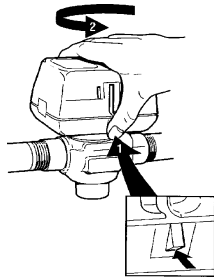

Figure 3 - Latch Mechanism to detach Actuator
1. The actuator head is automatically latched to the valve. Align the coupling hole in the bottom of the actuator with the valve stem. Press the actuator down towards the body with moderate hand force and turn the actuator counter-clockwise by 1/8 turn (45 degrees) to line up the actuator with the piping. The latch will click when engaged. See Figure 3.
4. The actuator head is automatically latched to the valve. To remove, press up on the latch mechanism with your thumb. It is located directly below the white manual open lever (see Figure 3). Simultaneously press the actuator down towards the body with moderate hand force and turn the actuator counter-clockwise by 1/8 turn (45 degrees). Lift the actuator off the valve body.
5. Install the new actuator by reversing the process in (4).